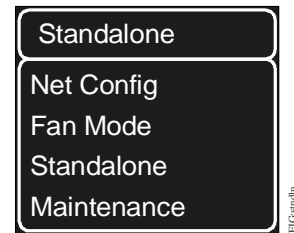

Figure 21: Stand-Alone Menu
1. Press and hold the Shoulder button  and the Override button  simultaneously for 10 seconds to set the room thermostat in the Configuration Mode. Initially, the LCD changes to the firmware version screen, and then after 10 seconds the configuration menu appears. Confirm that the first line in the configuration menu shows **Standalone**; if it indicates **Mesh**, switch to **Standalone** (Figure 21).